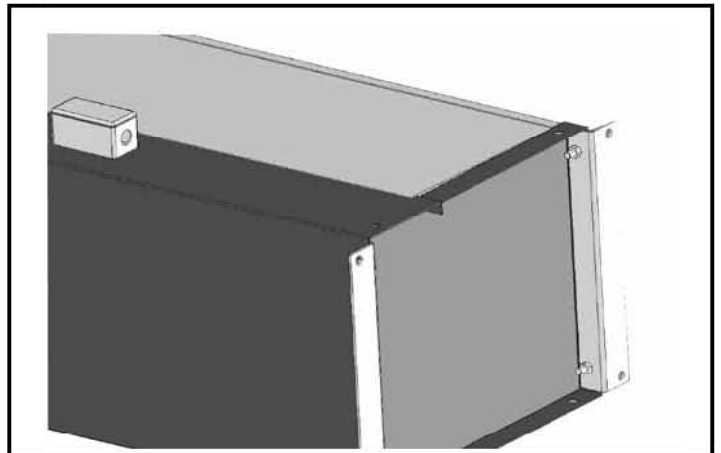

FIGURE 5 - Floor Mounting Brackets
- C. To vertically mount a IDC12/IDC14 Series unit using optional Floor Mounting Brackets, bolt brackets on the inside of the end plate with (4) $\frac{1}{2}$ - 13 bolts as shown in Figure 5.